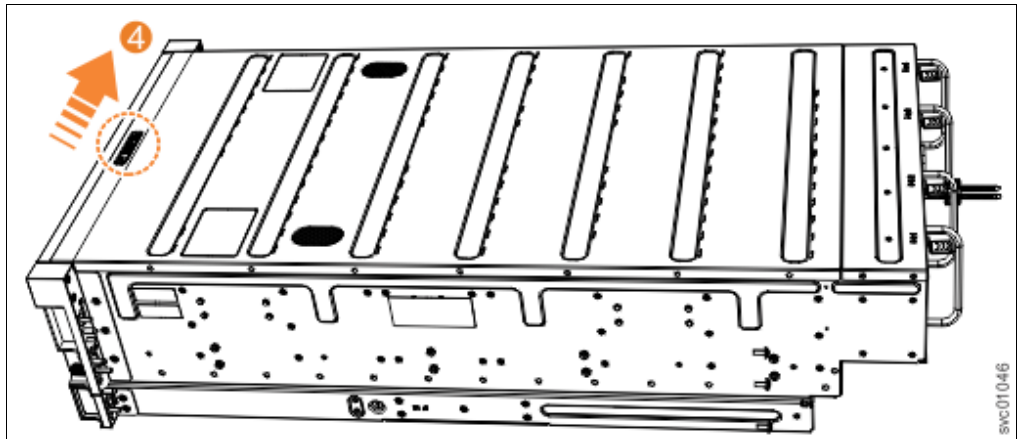

Figure 6-20 Locking the expansion enclosure top cover
- e. Lock the cover into position by sliding the release lever **4**, as shown in Figure 6-20.